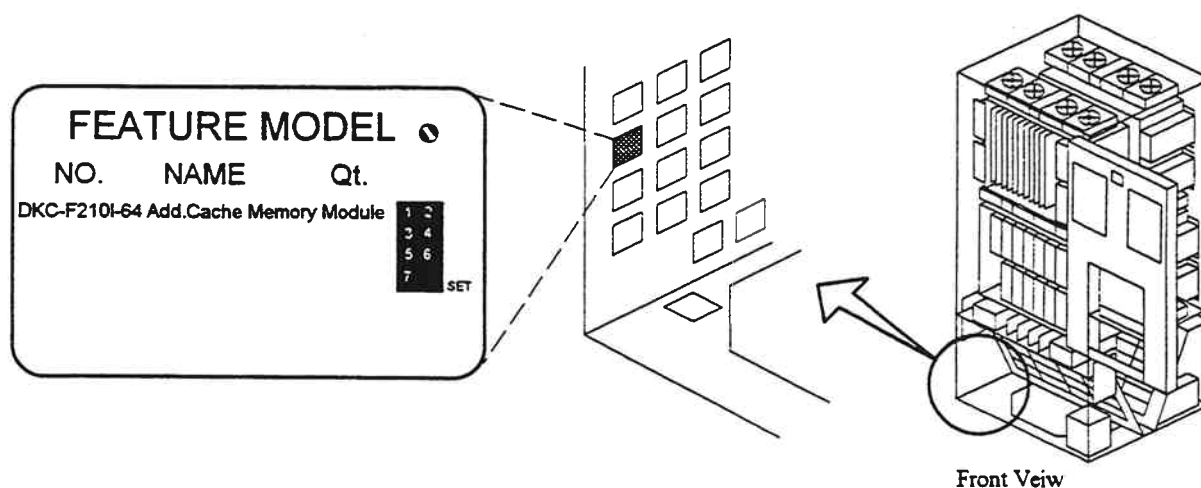

Fig. 3.4.1.8.2-4 Location of the Nameplate
- Refer to Fig. 3.4.1.8.2-4 and Table 3.4.1.8.2-5 to paint out unnecessary numbers and wipe off a necessary number painted previously so that the "Qt." marking for the corresponding DKC-F210I-64 can be seen.